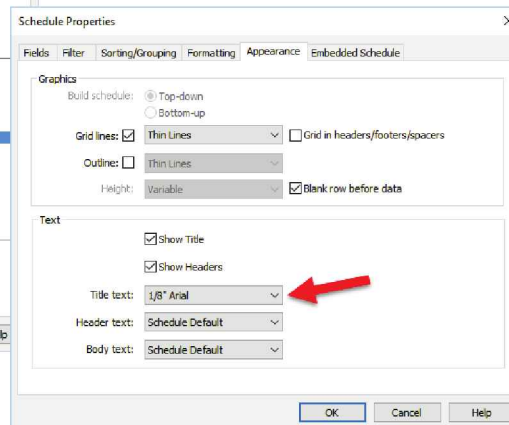

FIGURE 12-3.3
9. On the **Appearance** tab, check **Bold** for the header text (Figure 12-3.3).